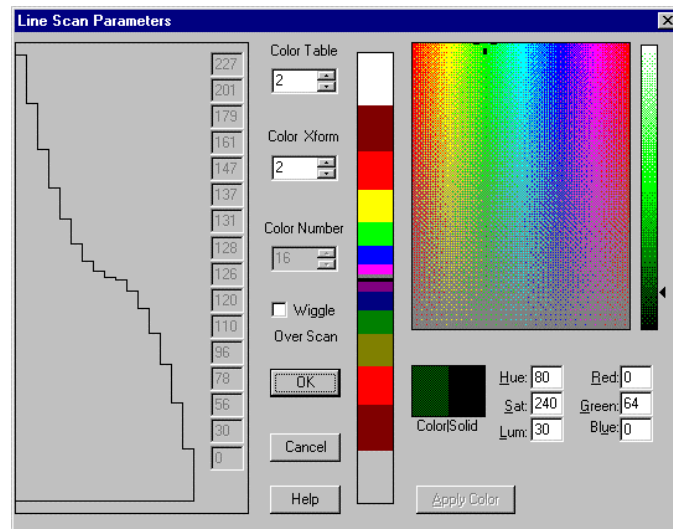

Figure 3: Linescan Parameters Setup dialog box.
Select the Linescan  icon on the toolbar to create a color-amplitude image of the data file as it is loaded. The Linescan Parameters dialog box (Figure 3) can be opened by selecting the Linescan icon in Display Parameters Setup.
**Color Table:** Color is used to code the amplitude of each scan (i.e., the recorded radar signal) as shown in Figure 3. You may choose one of the standard display color tables from a list of twenty-five tables. A color table represents the amplitude of the recorded radar signal mapped to different colors.